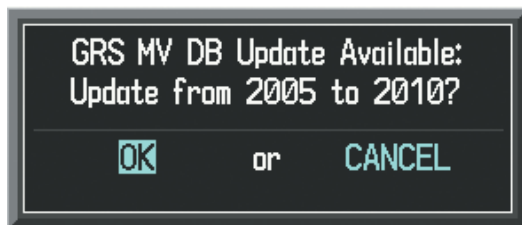

Figure B-8 GRS Magnetic Field Variation Database Update Prompt
- 1) With 'OK' highlighted, as shown in figure B-8, press the **ENT** Key on the MFD. A progress monitor is displayed as shown in Figure B-9.